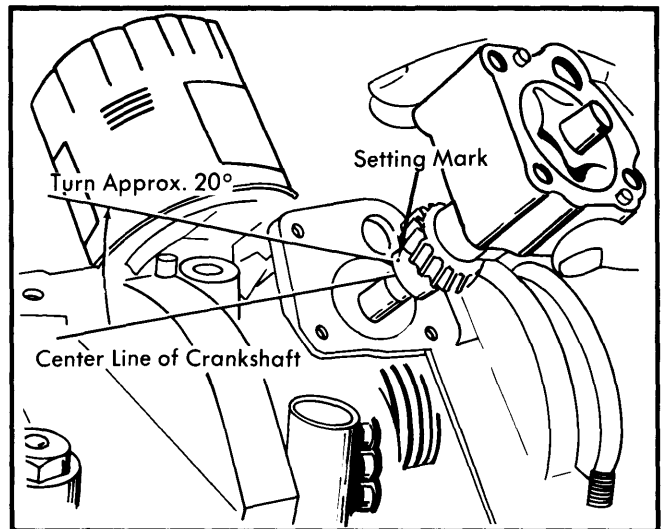

Fig. 8 Installing Oil Pump
2) Install driven rotor so that alignment mark aligns with mark on the drive rotor. Engage drive gear with pinion gear on crankshaft so alignment mark is turned rearward and is away from crankshaft by approximately 20° in clockwise rotation (See Fig. 8).